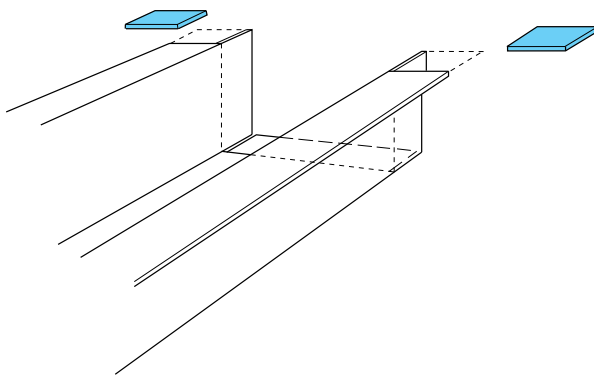

Fig. 1-23 — Create Tabs on the New Rail Section
3. Cut and remove approximately 35 mm (1-5/16 in) of the flanges on the service-rail. Cut a 5 mm (1/4 in) gap approximately 35 mm (1-5/16 in) along the corners of the service rail to create tabs (Fig. 1-23).